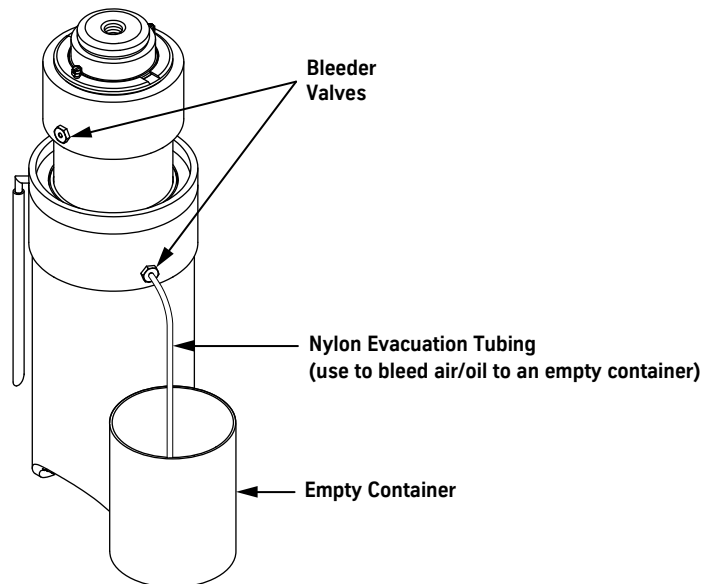

Figure 46 - Bleed the Jacks
1. Slightly open both bleeder ports (located at top of each jack) to allow air to enter the valve. See Figure 46.